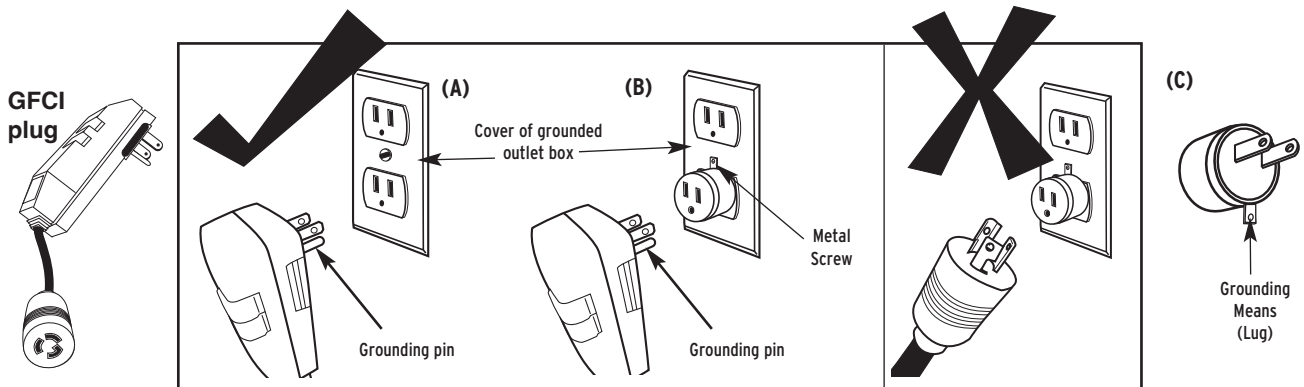

Figure 5
7. This saw is intended for use on a circuit that has an outlet that looks like the one illustrated in Figure 5. The GFCI plug used on the saw has a grounding plug that looks like the plug illustrated in Figure 5(A). A temporary adaptor, which
looks like the adaptor illustrated in Figures 5(B) and 5(C), may be used to connect the GFCI plug to a 2-pole receptacle, as shown in Figure 5(B), if a properly grounded outlet is not available. The temporary adaptor should be used only until a properly grounded outlet can be installed by a qualified electrician. The green-colored rigid ear, lug, etc., extending from the adaptor must be connected to a permanent ground, such as a properly grounded outlet box.